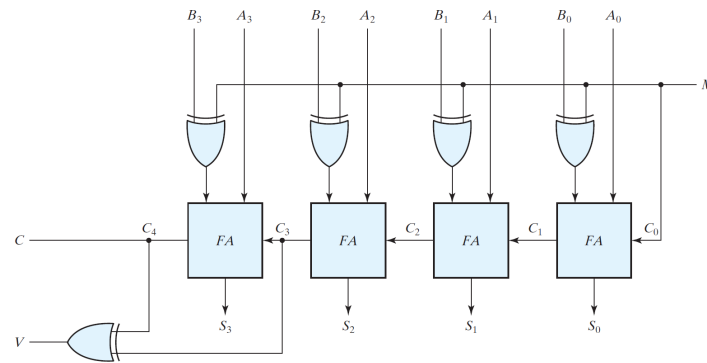

Figure 4: The 4-bit Adder Subtractor Circuit with Overflow Detector
4. The circuit should be design as given in Figure 4. Write down a module which is called **Add\_Sub**. This module is going to have 4-bit inputs **A** and **B**, 1-bit carry input **cin**, 4-bit output **sum**, 1-bit output **cout** and 1-bit output **overflow**. Obtain the circuit using FA's from your arithmetic\_circuits.v file.